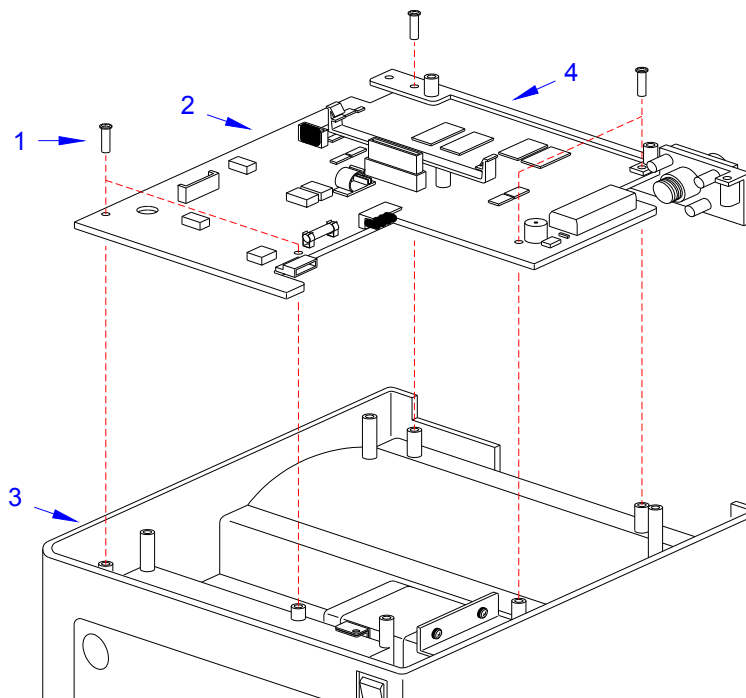

Figure 4-5, Main Circuit Board Replacement
- 3 Remove the five screws (1) (See Figure 4-5) that secure the main circuit board (2) to the printer (3).
- 4 Disconnect all wiring harnesses from the defective main circuit board (2).
- 5 Remove the defective main circuit board (2), along with the interface cover (4), from the printer (3).
- 6 Detach the interface cover (4) from the defective board (2) and attach it to the replacement board (2).
- 7 Insert the replacement main circuit board (2) into the printer (3) and secure it using the five screws (1) previously removed from the old board.
- 8 Reconnect all the appropriate wiring harnesses to the replacement circuit board (2).